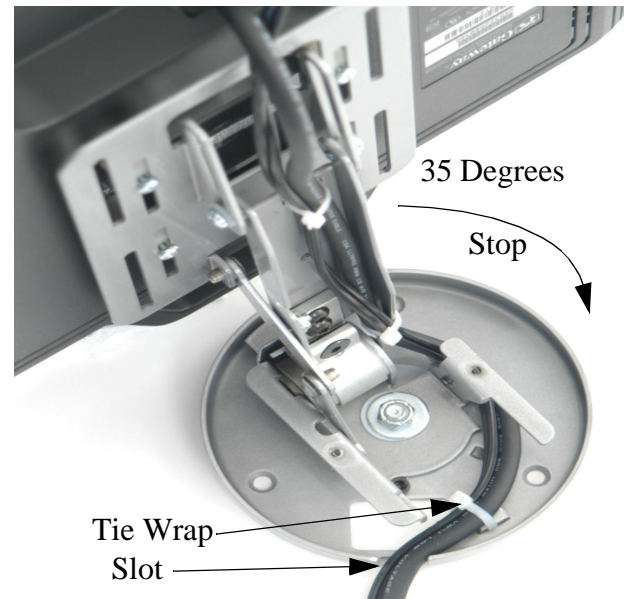
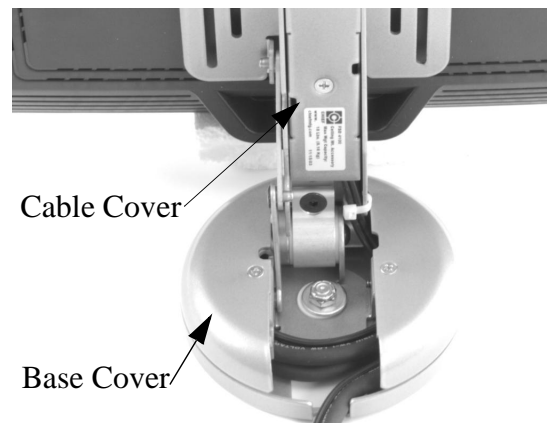

Figure 9. Route & Tie Wrap Cables (Base)
Figure 10. Install Base and Cable Covers
1. Turn the base 35 degrees in one direction to its stop (see Figure 9).
3. Secure the power/audio/video cables using a tie wrap (70).
5. Install cable cover (10B) on arm and secure using screw (see Figure 10).
6. Install base cover (10A) on base and secure using two screws (see Figure 10).
5. Secure cables to base using a tie wrap (70).
7. Install cable cover (10B) on arm and secure using screw (see Figure 10).
8. Install base cover (10A) on base and secure using two screws (see Figure 10).